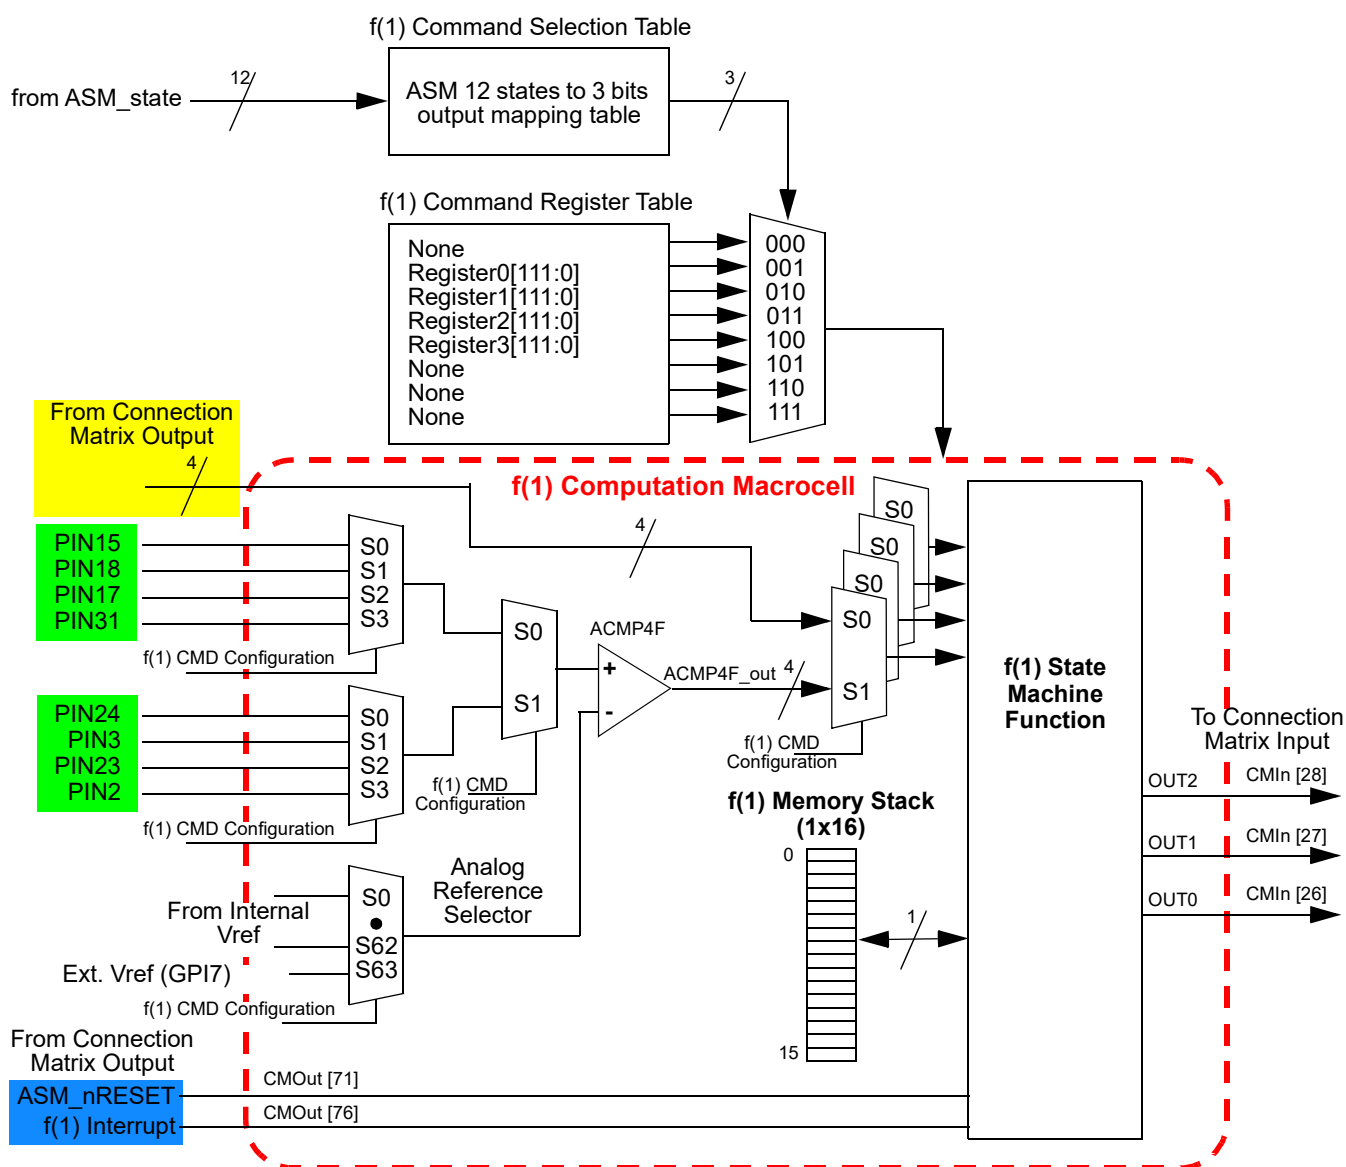

Figure 126: f(1) Computation Macrocell Input Signals
17.3 F(1) COMPUTATION MACROCELL INPUT SIGNALS
The f(1) Computation Macrocell has 6 digital input signals, ASM_nReset, f1_Interrupt, and four inputs from Connection Matrix outputs. An active signal on either of the first 2 inputs will immediately halt any command execution for the f(1) Computation Macrocell, and will immediately relinquish control back to the ASM macrocell. The ASM_nReset is a level sensitive signal, and active low. The f1_Interrupt is a level sensitive signal, and active high. These signals are shown in Figure 126, highlighted in blue. Also there are 4 digital inputs from the Connection Matrix, which can be routed to any Connection Matrix outputs from the f(1) Commands. These signals are shown on Figure 126 highlighted in yellow.